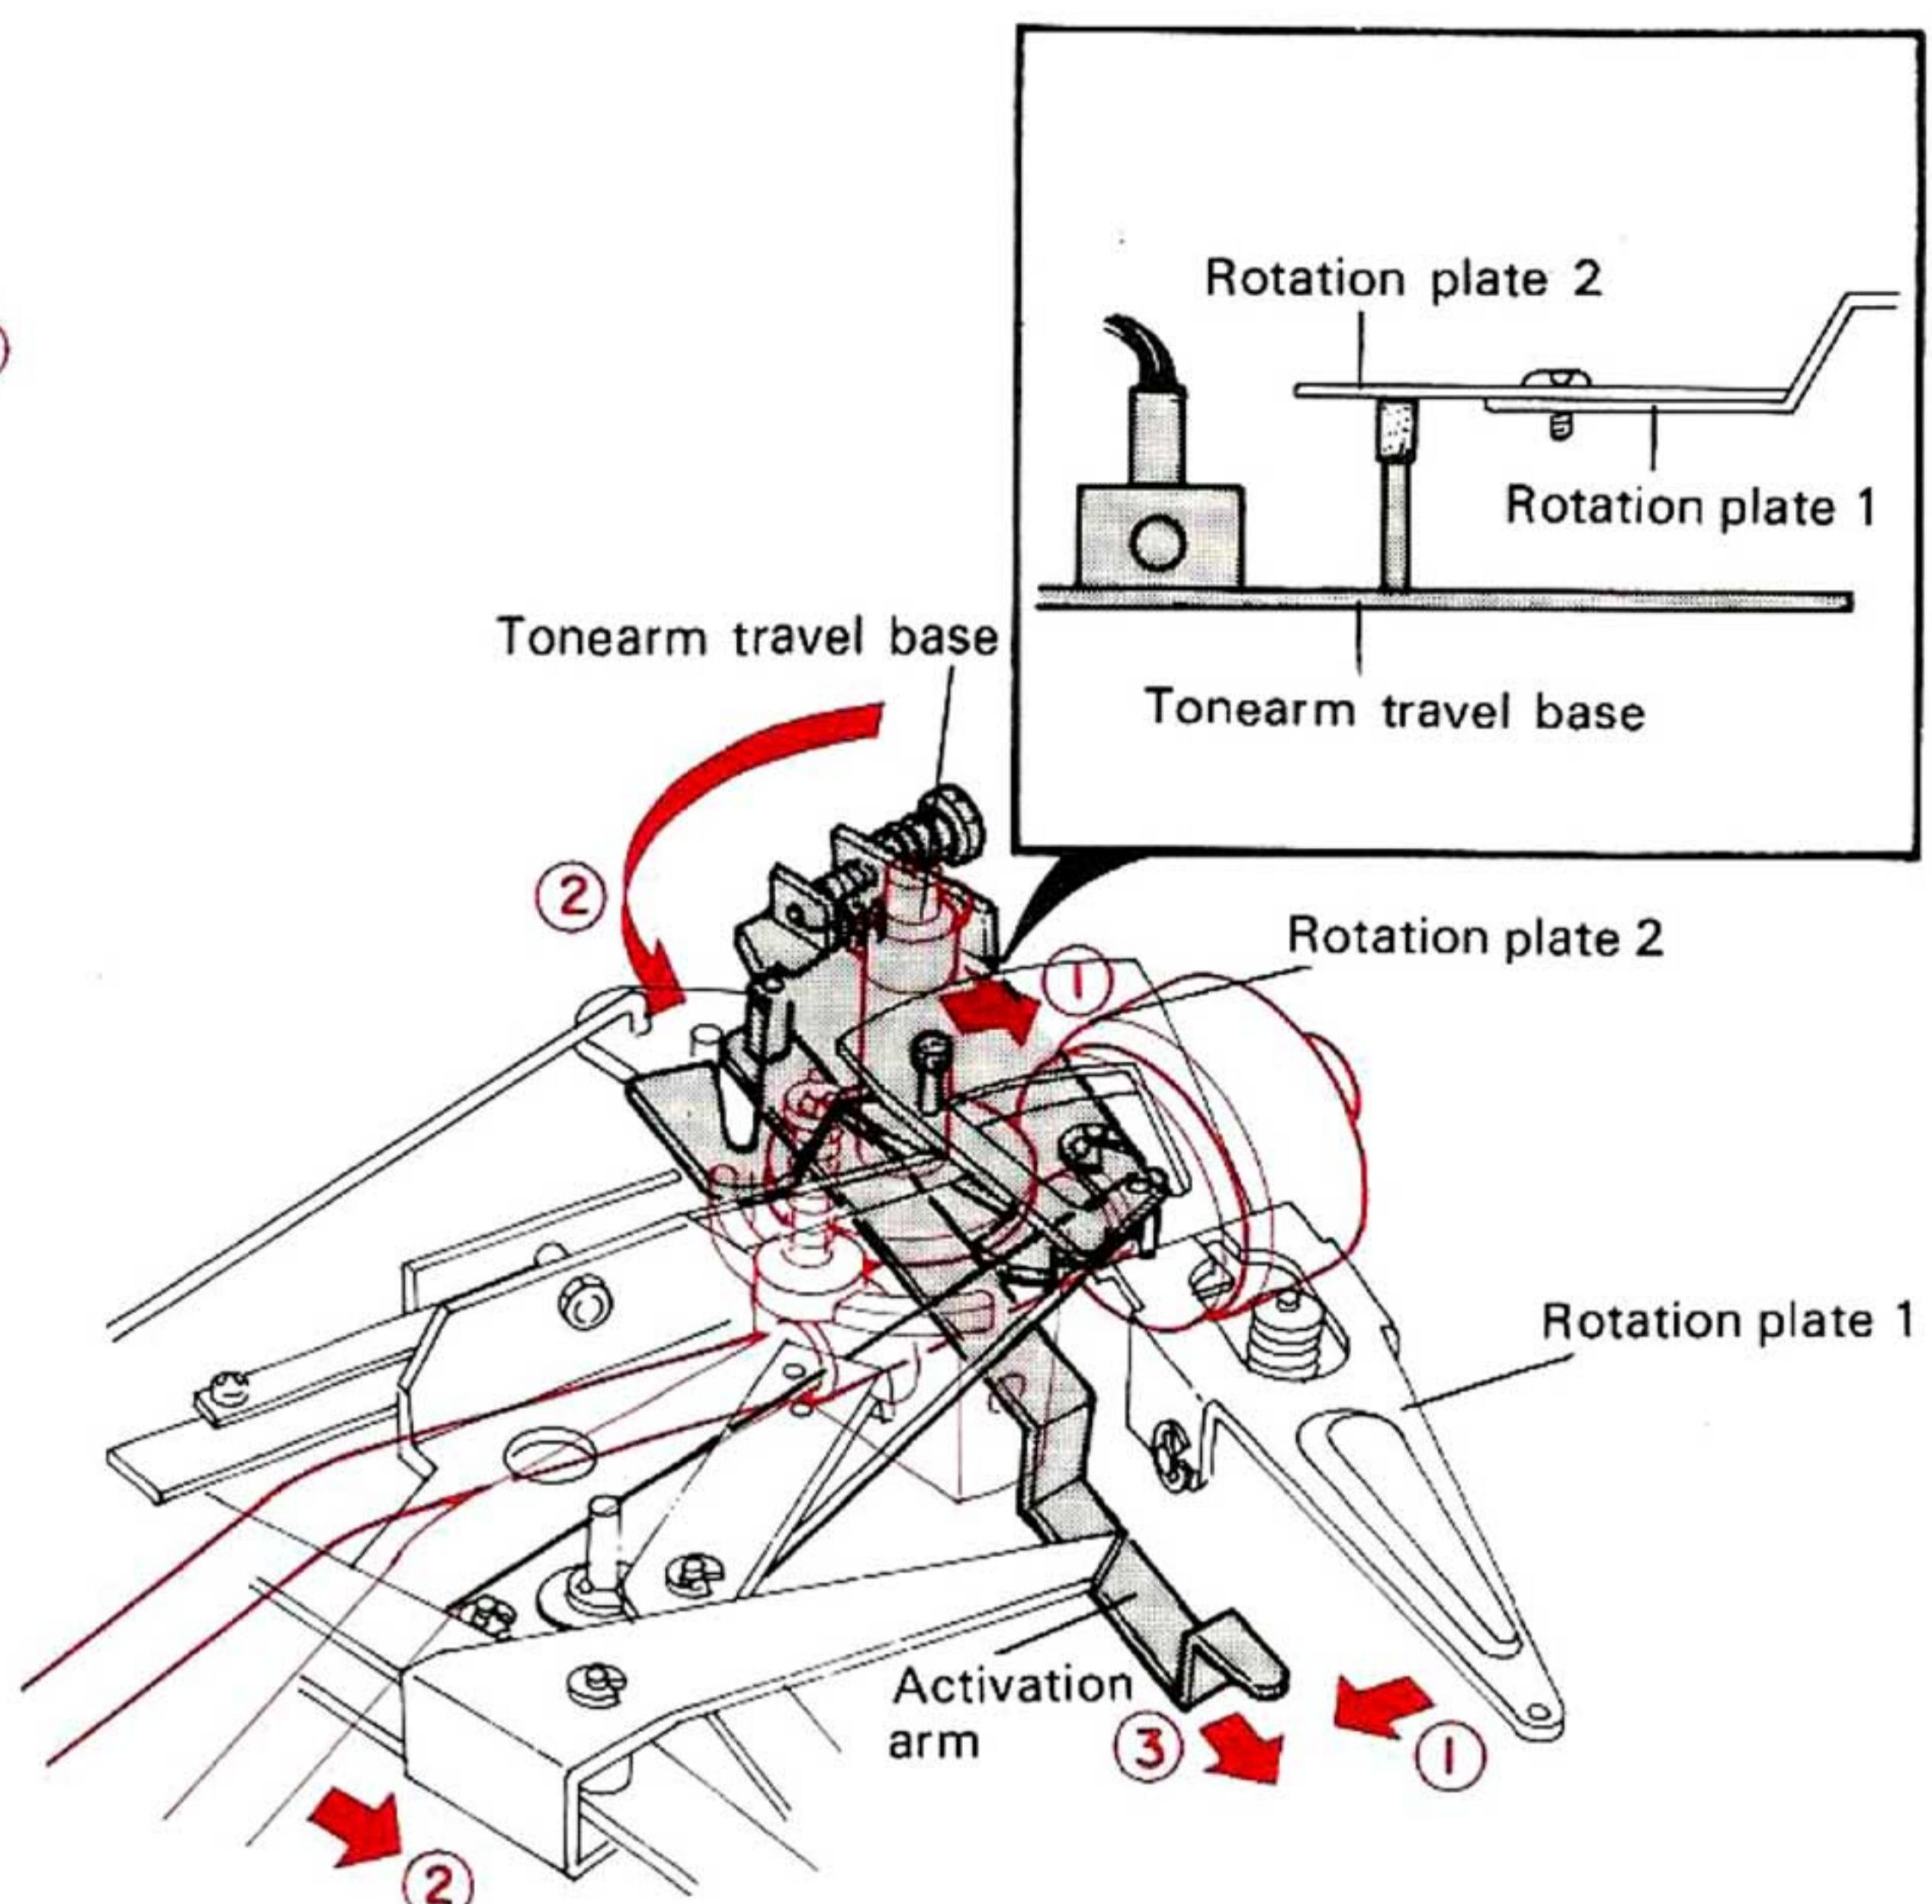
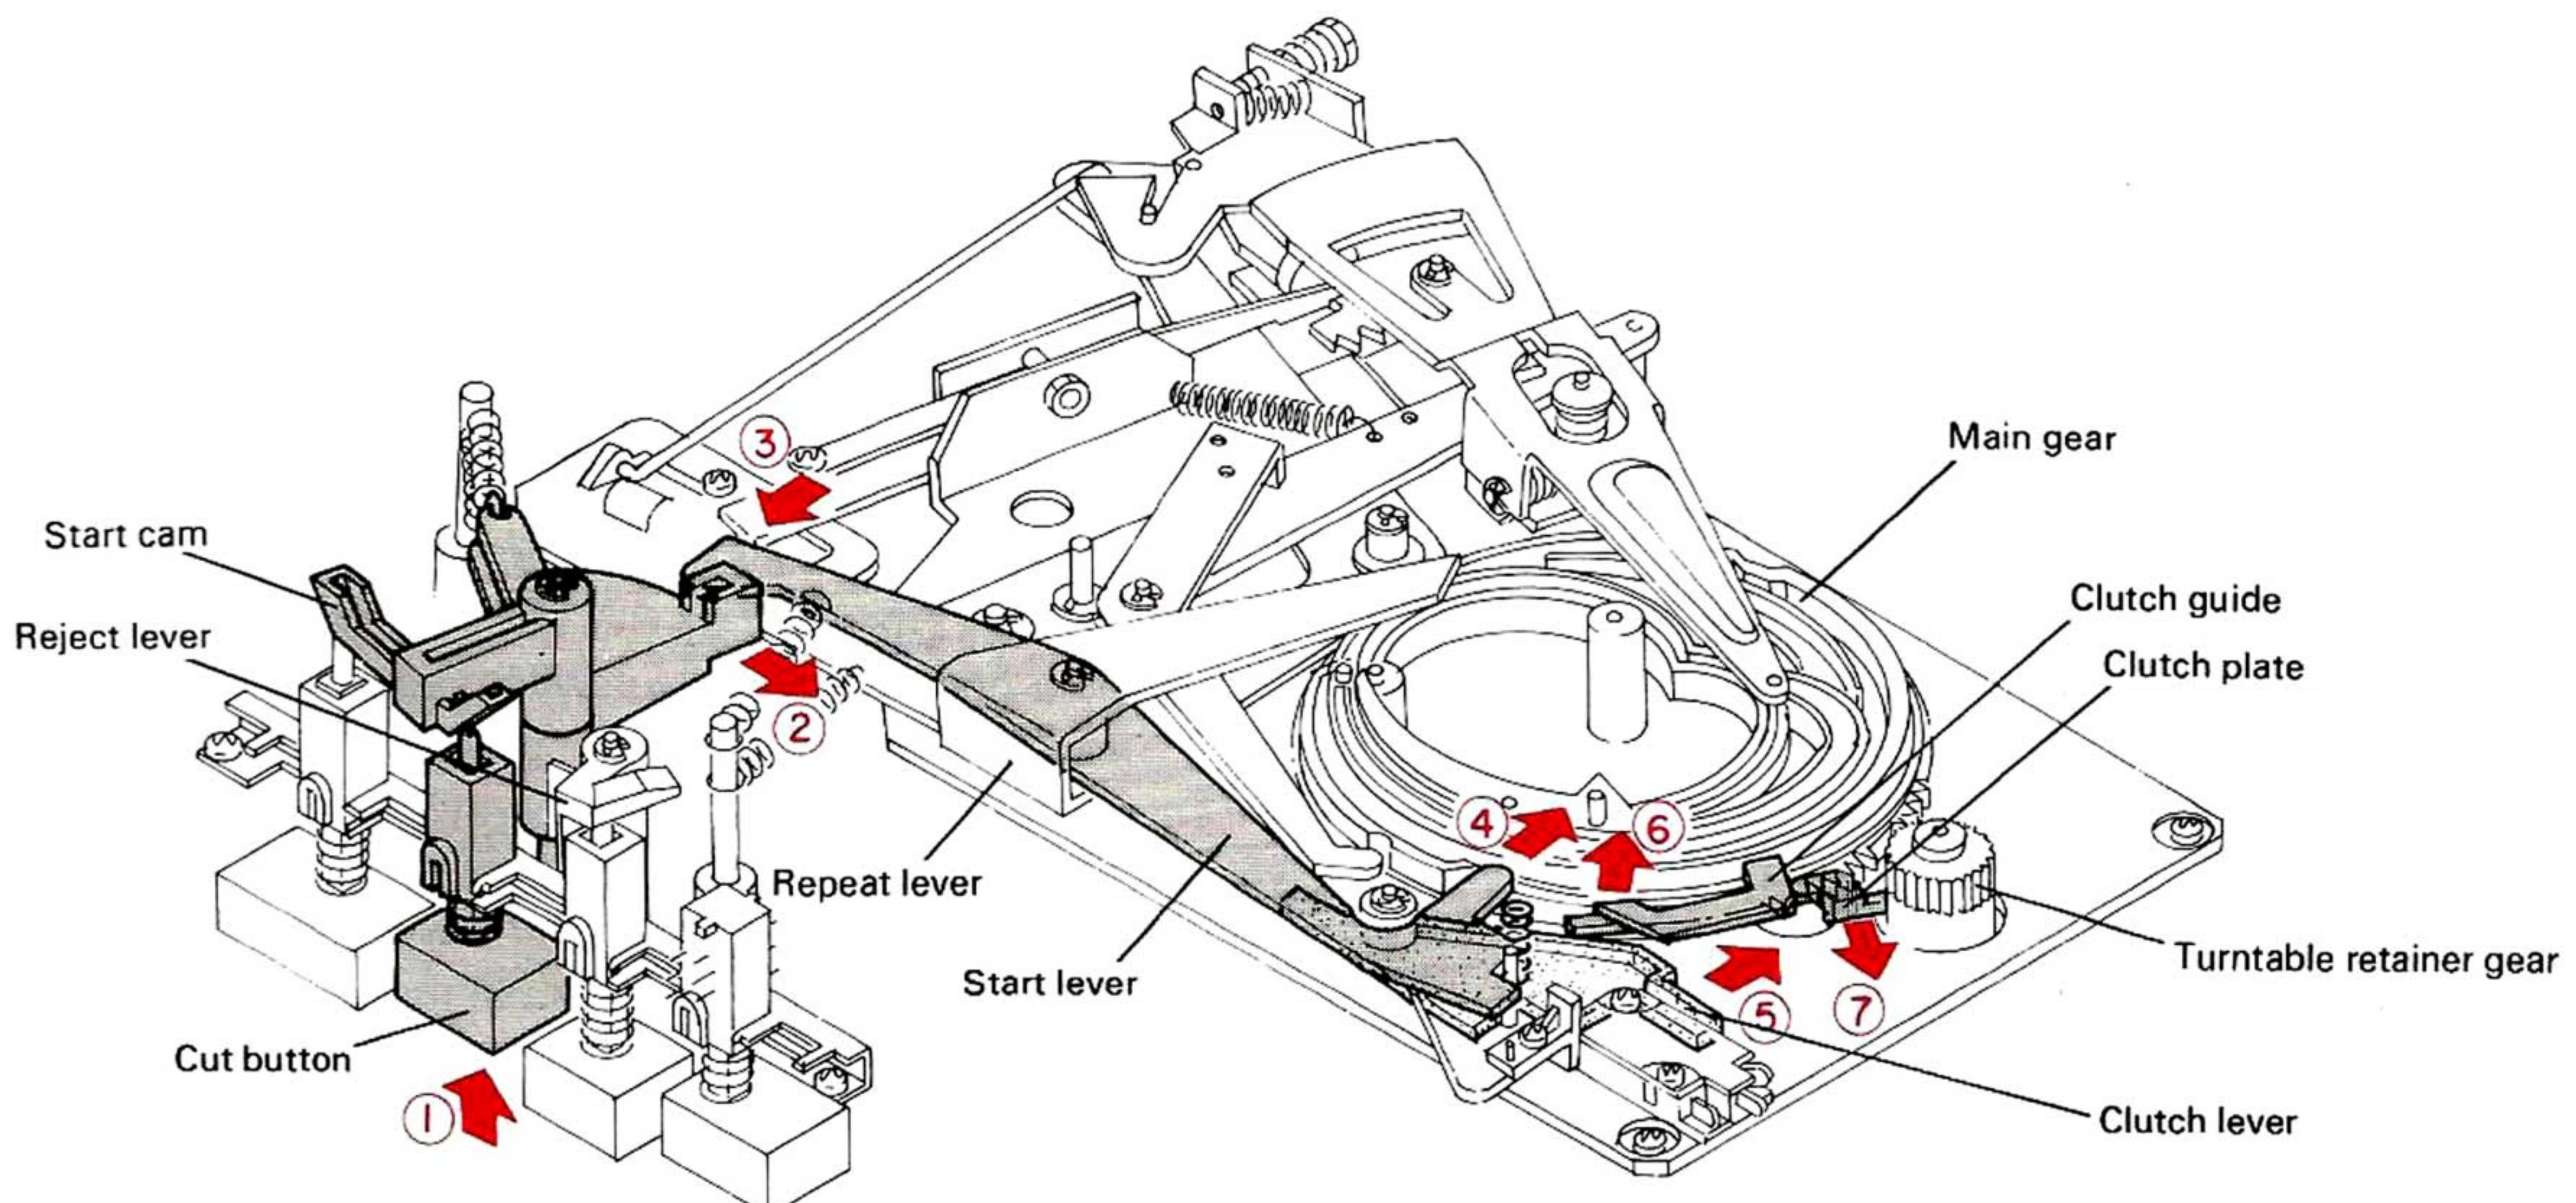

Fig. 6 Shifting of Tonearm
Fig. 10 When the CUT Button is Pressed
Rotation plate 1 moves in direction ① as the main gear rotates. The tonearm travel base also moves in direction ① due to the friction between rotation plate 2 and the boss on the travel base. As a result of this motion, the travel base itself moves in direction ② to shift the tonearm. The travel base stops when it comes in contact with the "30 cm" or "17 cm" position of the selector which is determined by the selector knob (Fig. 6). The activation arm which is coupled with the travel base moves in direction ③ (Fig. 6) to make the AUTO-CUT operation, explained later in section 3, possible.
rections ⑥ and ⑦ respectively and engage with the turntable retainer gear to rotate the main gear. But in this case, as the reject lever is not coupled with the start cam, the repeat lever does not move (Fig. 10).
When the stylus reaches the lead out groove of the record after completion of playback, the activation arm (refer to Fig. 6) pushes the clutch plate (refer to Fig. 10) located in the main gear and the clutch plate is engaged with the turntable retainer.